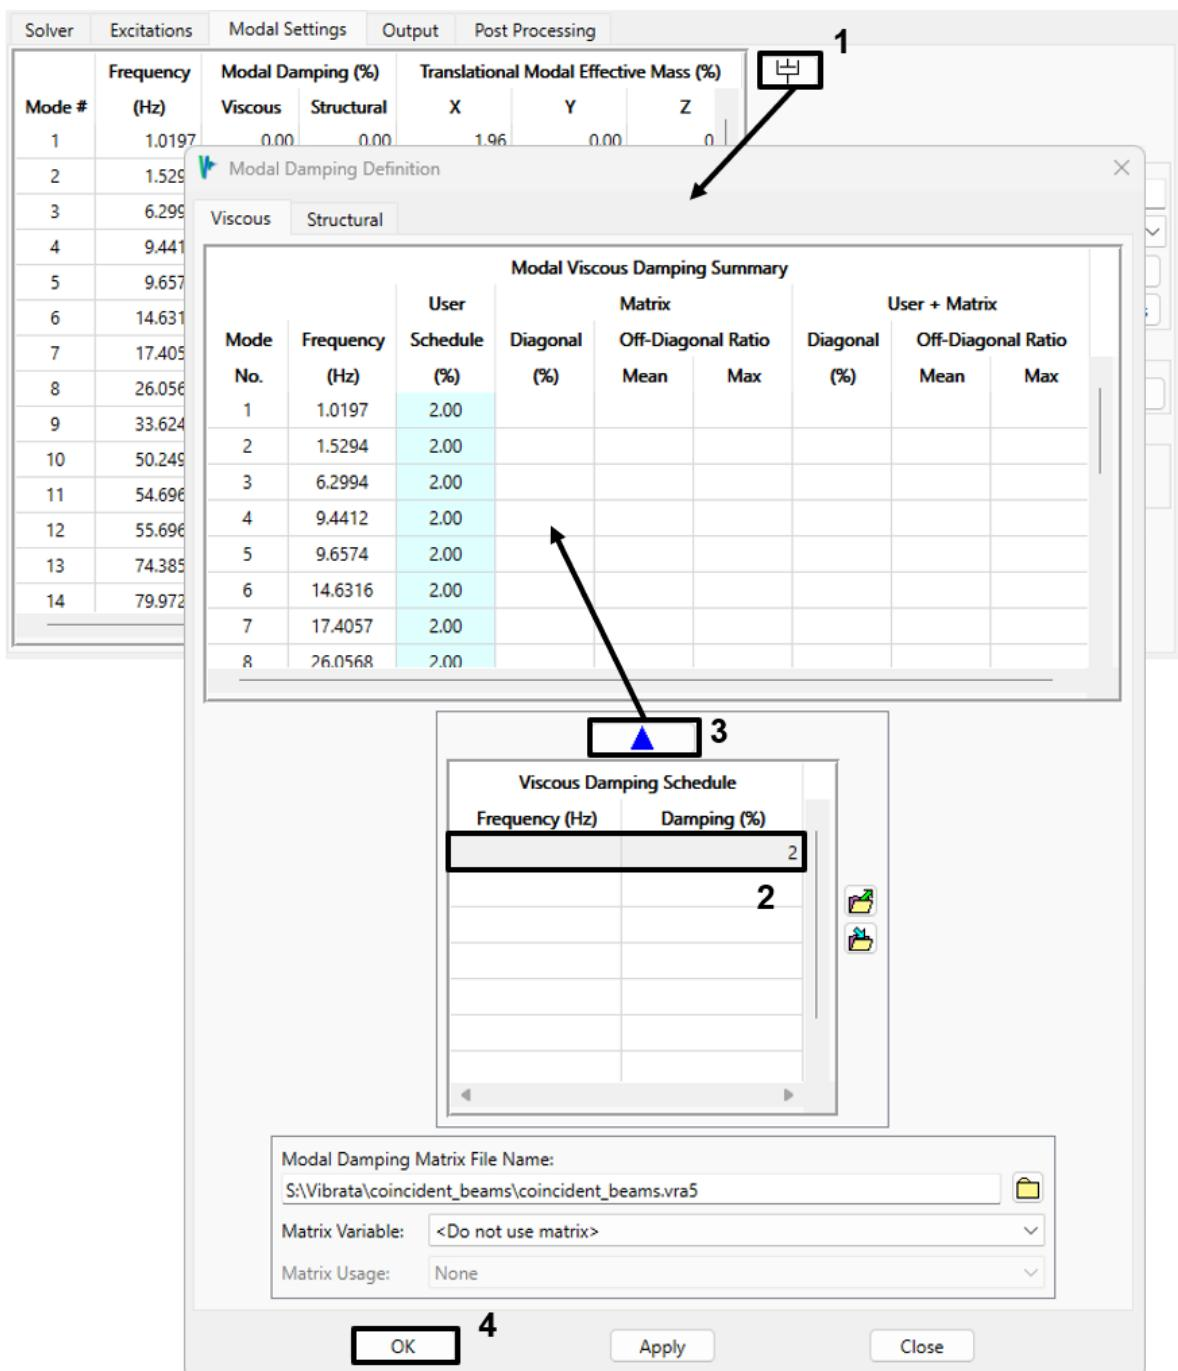

Figure 4-133. Set the viscous damping of the model to 2% for all modes.
9. Go to the *Modal Settings* tab and open the *Modal Damping Definition* dialog. Use the damping schedule to set the viscous damping to 2% for all modes, as shown in Figure 4-133.